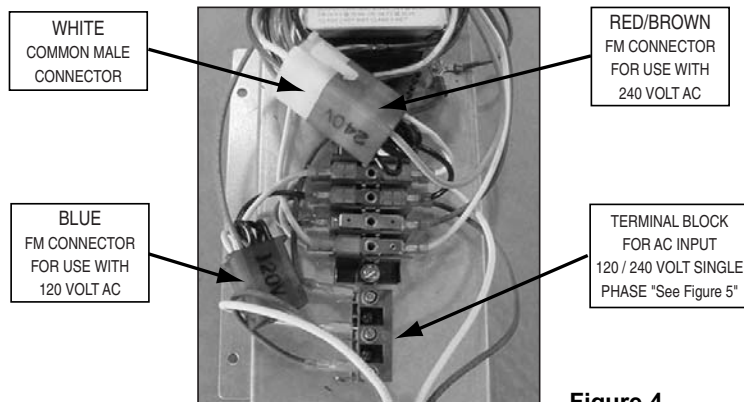

Figure 4.
- The MiniMax NT heater is prewired for 240 volt AC connection using the "RED/BROWN" female connector and the "WHITE" common male connector; see below, Figure 4. If you require the heater to be connected to 120 volts AC, remove the "RED/BROWN" female connector from the "WHITE" common connector; now locate the "BLUE" female connector and plug it into the "WHITE" common connector. When connecting the home wiring to the "Line Terminal Block" inside the junction box, follow the polarity as shown below. Connecting to 120 VAC, make sure that you connect the positive wire to the positive terminal (L), the neutral wire is connected to the neutral terminal (N) and the ground is connected to the ground terminal (GND); see below, Figure 5.
You might need to open the jacket (upper panel) for servicing the Line Terminal Block as shown in Figures 4 & 5.